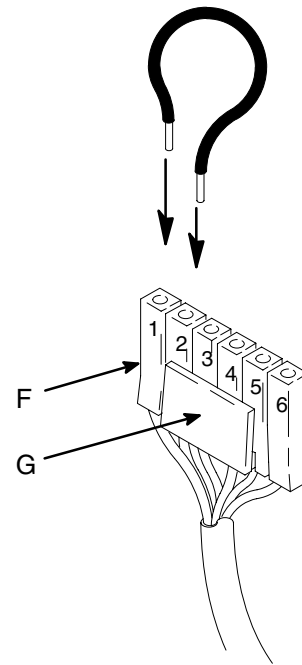
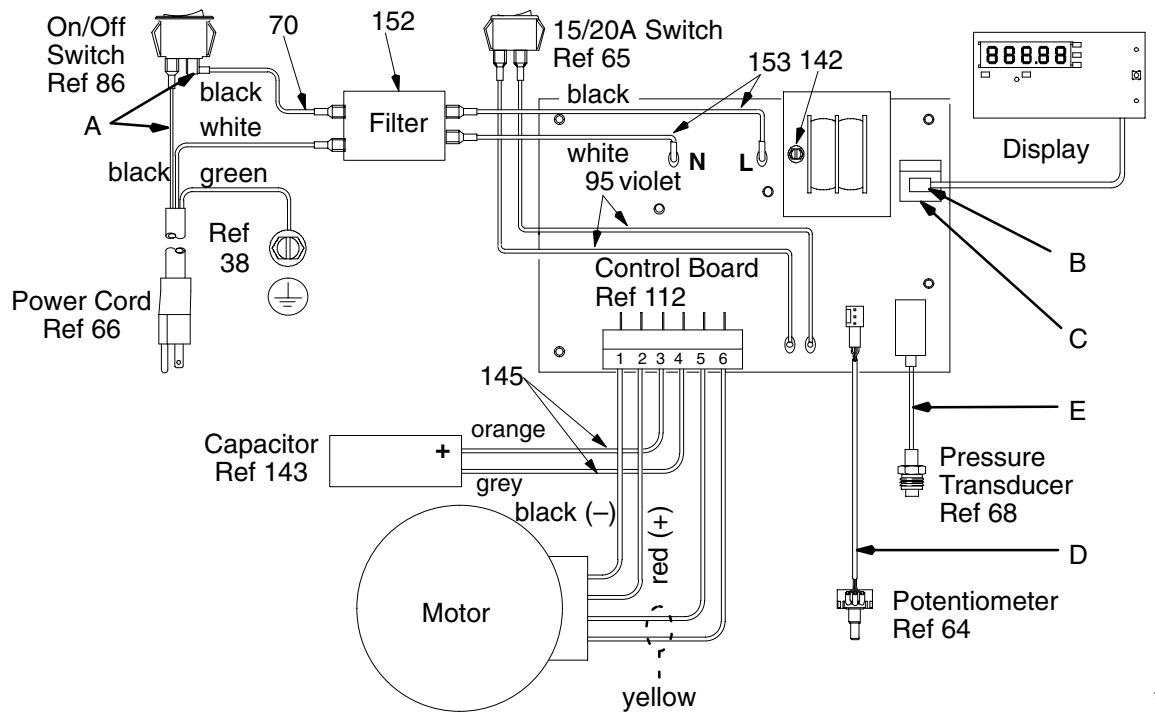

Fig. 3
Fig. 7
4. Fig. 7. Remove four screws (60), pressure control cover (49), four screws (108), control panel (67) and housing (58). Fig. 3. Press tab (G) and disconnect motor connector (F).
1. Fig. 3. Connect motor leads (positions 1 and 2) together with test lead. Turn motor fan by hand at about two revolutions per second.
3. Fig. 7. Remove four screws (60) and pressure control cover (49). Disconnect display connector (B).
4. Remove two screws (108) and control panel (67).
5. Disconnect two wires (A) from ON/OFF switch (86).
6. Squeeze inside tabs on ON/OFF switch (86) and remove from control panel (67).
7. Disconnect two wires (95) from 15/20A switch (65).
8. Squeeze inside tabs on 15/20A switch (65) and remove from control panel (67).
Refer to Fig. 7 or 8 depending on sprayer model.
1. Clean pads on rear of motor control board (112). Apply small amount of thermal compound 073019 to pads and spread evenly.
3. Fig. 7 or 8. Install motor control board (112) with six screws (41) and screw (142).
4. Connect to motor control board (112):
- Lead (E) to transducer.
- Lead (D) to potentiometer.
6. Install gasket (106) and housing (58) with two screws (108).
7. Install control panel (67) with two screws (108). Make sure no wires are pinched.
8. Install display connector (B). Install pressure control cover (49) with four screws (60).
3. Fig. 7 or 8. Remove four screws (60) and cover (49). Disconnect display cable (B).